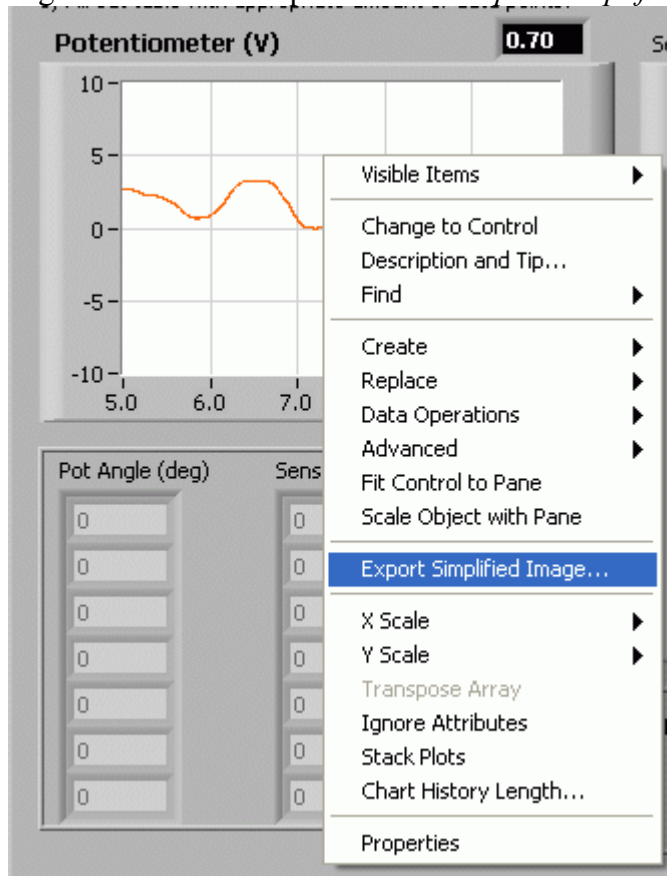

Figure 46: Right-click on scope and select *Export Simplified Image*.
1. Right-click on the scope and select *Export Simplified Image*, as shown in Figure 46.